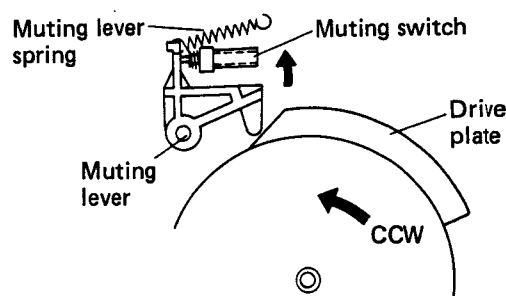

Fig. 2-13 Auto lead-in operation 4
The drive plate continues to rotate, pressing against the UP switch (see Fig. 2-13).
11. After the tonearm has been fully lowered onto the record, the drive plate pushes against the muting switch. In addition to switching the muting switch off, the tonearm drive motor is also stopped (see Fig. 2-13 and relevant circuit description).